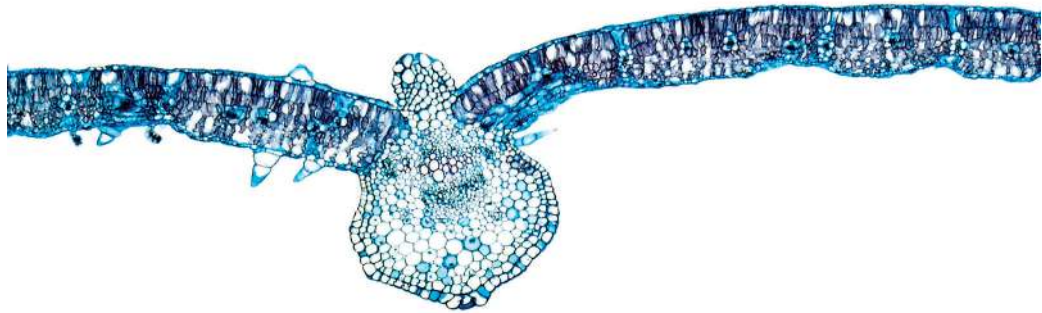
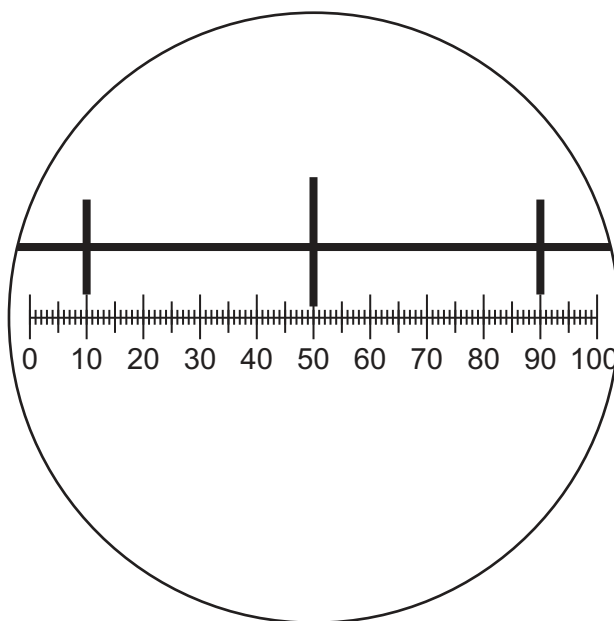
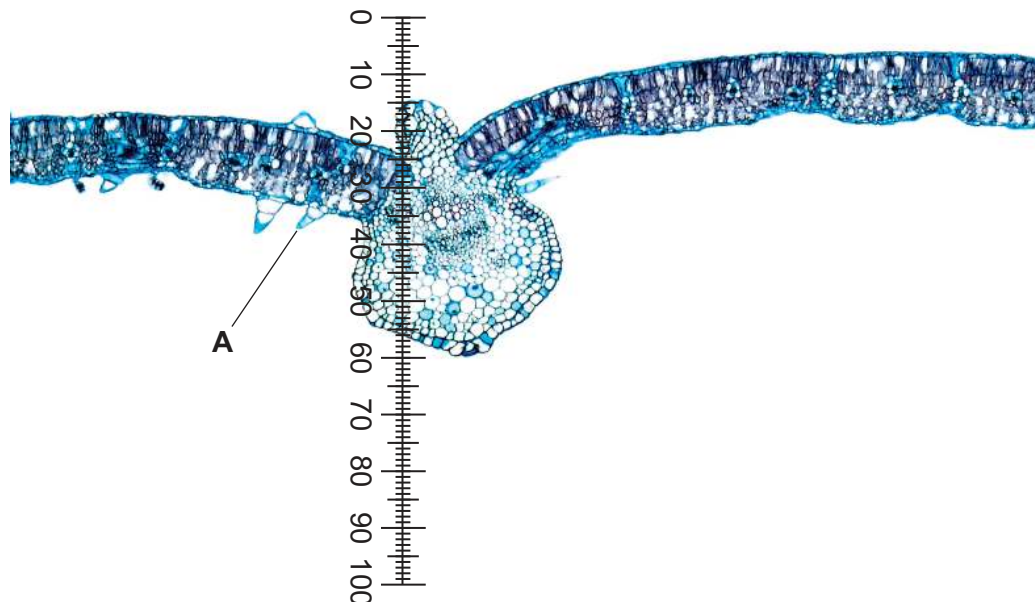

Fig. 2.2
Fig. 2.3
Fig. 2.4
(b) Fig. 2.2 is a photomicrograph of a stained transverse section of a different leaf from **M1**.
Identify **three** observable differences, other than colour, between the leaf section in Fig. 2.2 and the leaf section on **M1**.
- (c) Fig. 2.3 shows a diagram of a stage micrometer scale that is being used to calibrate an eyepiece graticule.
- (i) Use Fig. 2.3 to calculate the actual length of one eyepiece graticule unit.
Fig. 2.4 is the same photomicrograph as that shown in Fig. 2.2. This was taken using the same microscope and eyepiece graticule as in Fig. 2.3.
- (ii) Use the calibration of the eyepiece graticule unit from **(c)(i)** to calculate the actual thickness of the midrib of the leaf section in Fig. 2.4.
- (iii) Suggest a possible function of the structure labelled **A** in Fig. 2.4.